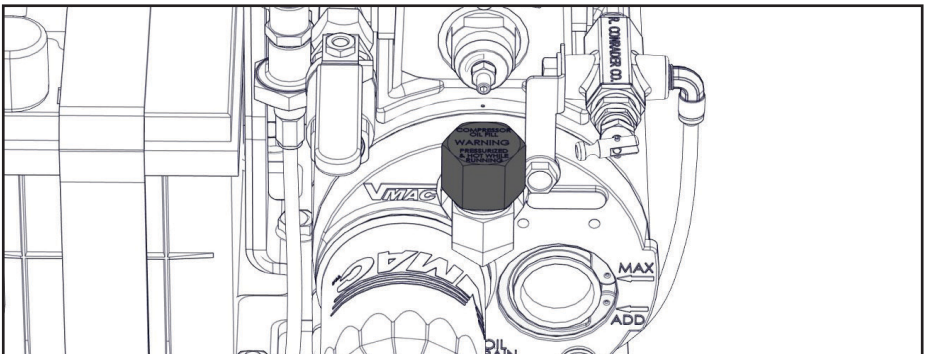

Figure 35 — Compressor oil fill
- Remove the filler cap on the WHASP Tank. Fill the WHASP Tank with VMAC compressor oil until it reaches the "MAX" mark. The air compressor system holds approximately 4 L (1 USG) of oil (Figure 35).